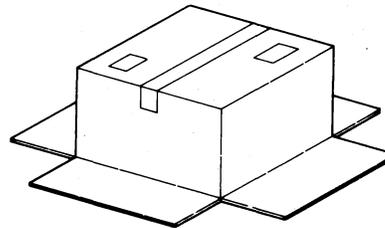

Fig. 10—Printer Carton
3.08 Turn carton bottom upside down. Cut tape and open bottom flaps outward. Return box and contents to upright position, keeping bottom flaps folded out (Fig. 10).